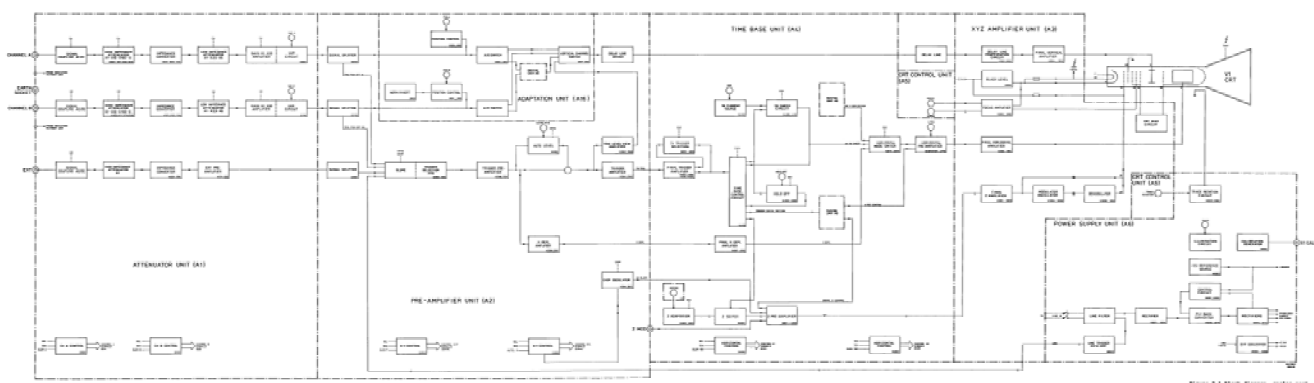

Figure 3.1 Block Diagram, radio unit
3.2 BLOCK DIAGRAM DESCRIPTION (see figure 3.1 and 3.2)